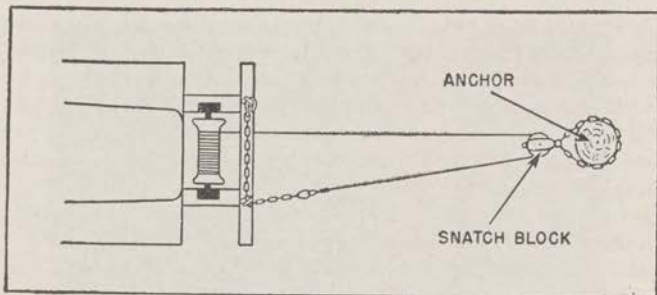

FIGURE 42.—Rig without spreader bar.
c. Use snatch block.—When practicable, do not use your winch for pulling your own vehicle without passing the winch cable through a snatch block secured to the anchor, as shown in figure 42. This rig is much better than attaching the end of the cable directly to the anchor, as the double pull lessens the strain on the cable and eases the jerks. Cable used single for heavy loads is often frayed or broken or otherwise damaged.
e. Attaching winch rope.—In attaching the winch rope to a vehicle, pass it through one tow hook and then across the front of the vehicle to the other tow hook, as shown in figure 42.